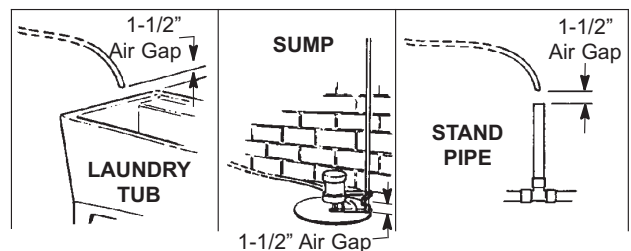

FIG. 4
- a. If installing a single bypass valve, push the bypass valve, with lubricated o-ring seals in place, into the valve inlet and outlet ports (See Figures 4 & 5).
- b. If installing a 3-valve bypass system, slide plastic installation adaptors, with lubricated o-ring seals in place, into the valve inlet and outlet ports (See Figure 4 & 5).
The house cold water pipe (metal only) is often used as a ground for the house electrical system. The 3-valve bypass type of installation, shown in Figure 4, will maintain ground continuity. If you use the plastic bypass, continuity is broken. To restore the ground, do either step 4a or 4b following.
- a. Take a length of 1/2" inside diameter hose and attach to the valve drain fitting, securing it with a hose clamp (See Figure 4 on page 6).
- b. Locate the other end of the hose at a suitable drain point (floor drain, sump, laundry tub, etc.). Check and comply with local codes. Refer to Figure 4 on page 6 if codes require a rigid pipe drain run.